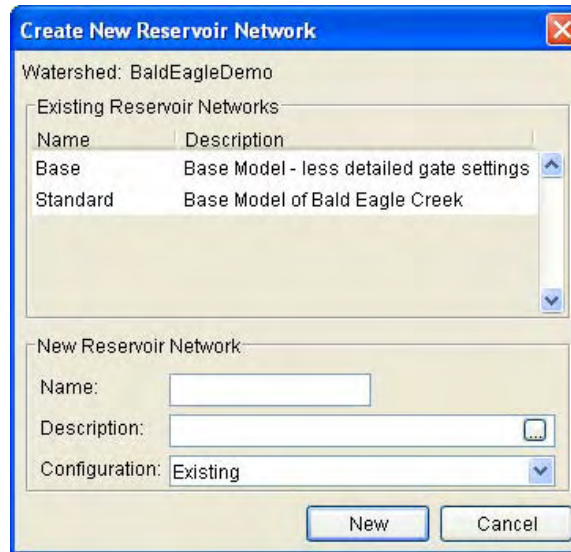

Figure 8.11 Create New Reservoir Network
1. From the **Network** menu, select **New**. The **Create New Reservoir Network** dialog box will appear (Figure 8.11).